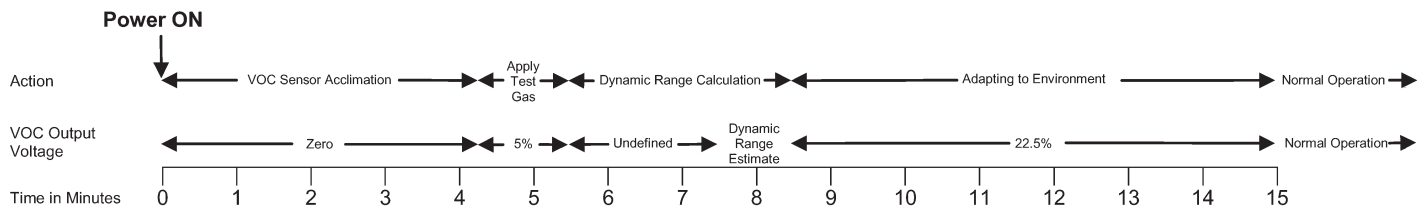

Fig. 10: Sensor Start-up Timeline
At each power up, the sensor enters the start-up period for 15 minutes. The VOC output will follow the timing shown in Figure 10. During the start-up period, an optional verification/commissioning test, described below, may be performed. This test is not mandatory. It is necessary only if building commissioning requires sensor verification or if verification of VOC output is required for later troubleshooting.
- Remove sensor power for at least one minute and reapply. The VOC sensor will set the VOC output to zero volts. (Power ON in Fig. 10)
- D. The 5% output voltage confirms that the VOC sensor is in its verification/commissioning test. (Apply Test Gas in Fig. 10.)
- B. Read and record the VOC output voltage approximately 2 to 4 minutes following the stimulus gas application to determine the dynamic range measurement. (Dynamic Range Estimate period in Fig. 10)